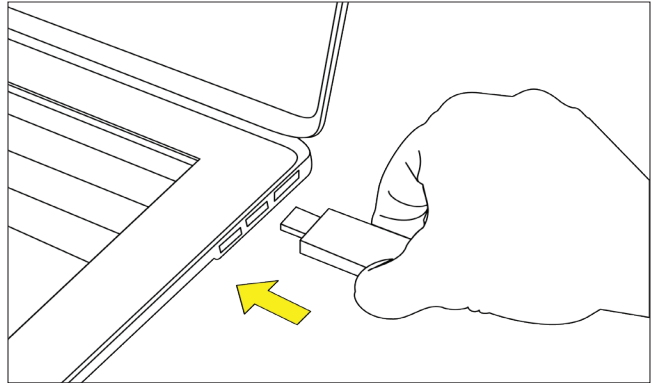

Figure 2. Plug the USB transceiver into the computer.
STEP 2. Install the USB transceiver. A USB transceiver (firmware version 1.6 or 2.0) must be installed on the computer to communicate with a TripSaver II recloser. (A USB transceiver with firmware version 2.0 is required to communicate with TripSaver II Cutout-Mounted Reclosers with firmware version 2.0 or later.) Insert the USB transceiver into any USB port on the computer. See Figure 2. The installation process is automatic.